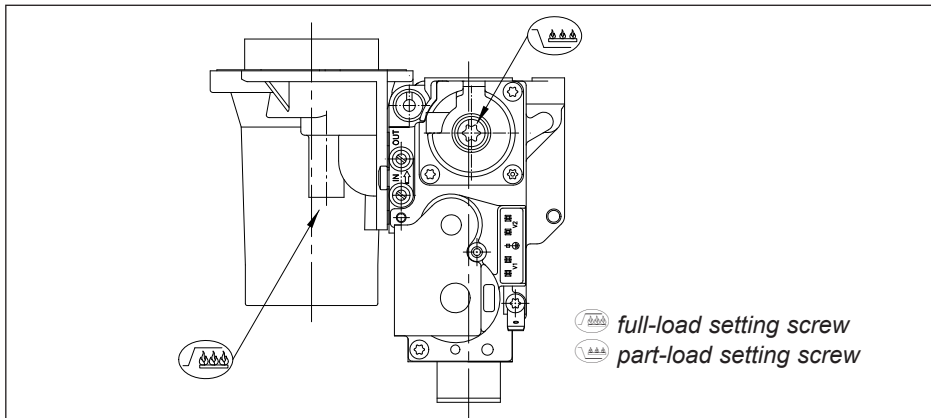

Fig. 20 Setting screws
13. Connect + side of digital manometer to test point on inlet gas valve (*see Fig. 20*) to test for max/min inlet pressure i.e.,
- 18 b. When full load speed is reached check values against *Table 16* (setting data) and adjust if necessary using the screw on the venturi, turning screw anti clockwise will increase CO₂, turning screw clockwise will decrease CO₂, (see *Fig. 20*)
When part load speed is reached, check values against *Table 16* and adjust if necessary using the screw on gas combi block, (adjustment screw is protected by a cover - both cover and adjustment screw are torx star type keys) turning screw clockwise will increase CO₂, turning screw anti clockwise will decrease CO₂, (see *Fig. 20*) Check flame via inspection window, the flame should be stable, with a regular blue flame distribution and orange burner surface